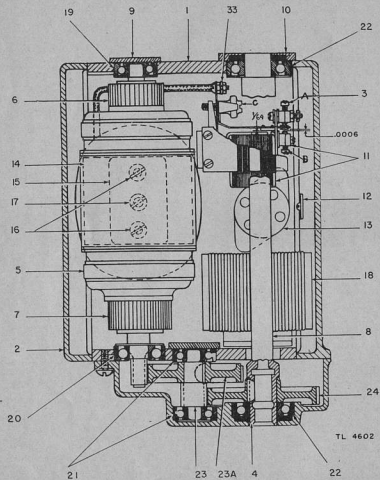

FIGURE 28.—Generator GN-44-A—section view.
(1) Remove top cover from generator.
(2) Loosen setscrew that holds B. Loosen B sufficiently to allow gage 12 to pass between vibrator contact and B.
(3) Loosen setscrew that holds A and adjust A until spacing (determined with gage) between vibrator and core is $\frac{1}{4}$ inch.
(4) Adjust B until spacing (determined with gage) between vibrator contact and B is 0.0006 inch.
(5) Tighten setscrew that holds A and B.
(6) Adjust C until the output voltage is 295, as shown on the name plate, when the generator is connected to the radio set and the conditions required in paragraph 16d (1) (b) to (e), inclusive, exist.
b. Lubrication.—Maintenance will consist of inspection and lubrication of the bearings at 6-month intervals. Use S-58 nonfluid oil from the New York and New Jersey Lubricant Company, New York City, or ANDOK C grease from the Standard Oil Company of New Jersey or an equivalent lubricant. Do not use petrolatum. There are six bearings requiring this service and just enough grease should be used to keep the ball bearings from rusting. To apply the grease, proceed as follows: Remove legs from generator and place generator so that it stands up on the gear case. Unscrew caps 9 and 10 (see figs. 28 and 29) and insert grease between the inner and outer ball races. Replace caps. Remove nut and washer which ground capacitor C205, and stand generator so that gear case is at the top. Remove gear case 4 and intermediate pinion 23. Apply grease to ball races in gear case and to ball races 21 in magnet frame and armature bearing 20. Add grease to the gears, filling up between the gear teeth. Replace gear case, making certain that screws retaining it to the frame are tightened evenly. Replace nut and washer which ground capacitor C205. Replace cover.
d. *Armature and field coil replacements* (see figs. 28, 29, and 30).—The replacement procedure for armature and field coils is as follows:
(1) Because of the construction of the generator, the armature and the pole pieces must of necessity be handled together. The upper cover 3 of the generator frame must be opened and the regulator unfastened from the magnet frame in order to disconnect the lead of the